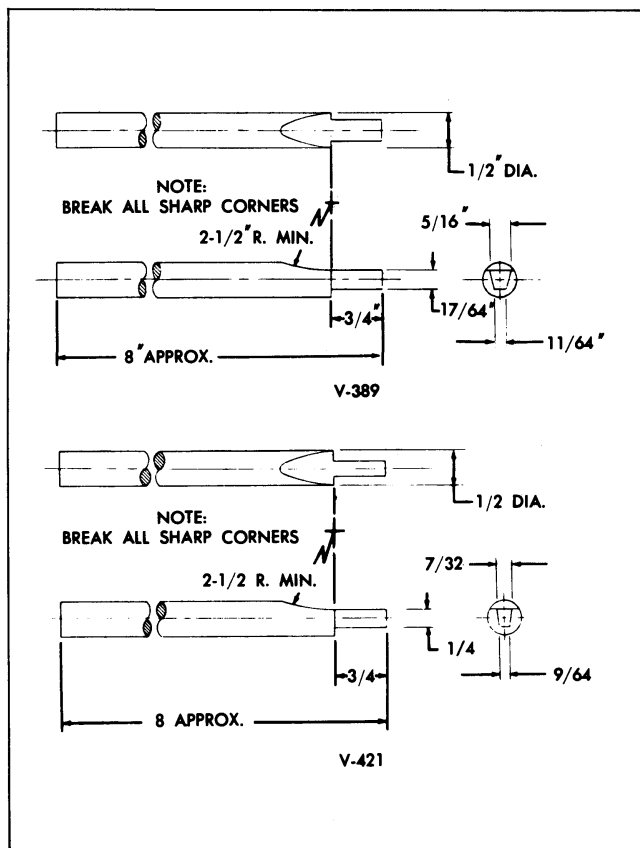

Fig. 6-4 Rear Main Bearing Seal Tool
5. Use tool shown in Fig. 6-4 made from brass bar stock to pack upper seal as follows: